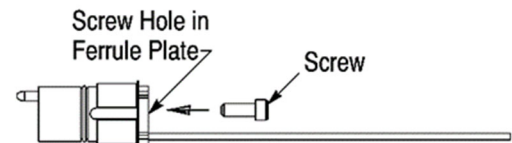

Figure 11
2. Align the end of the ferrule assembly with the appropriate channel cavity of the EB insert and insert the ferrule assembly into the channel cavity until the O-ring is against the channel cavity. See Figure 11, Detail A. To avoid damage to the fiber, DO NOT push on the fiber to install the ferrule assembly.
3. Slide the spring over the fiber until it is against the O-ring of the ferrule assembly. See Figure 11, Detail B.
4. Using the ferrule insertion tool, **push on the spring** until the ferrule assembly bottoms in the channel cavity (the spring will protrude slightly from the cavity). See Figure 11, Detail C.
5. Align the index pin hole of the ferrule plate with the index pin at the back of the EB insert, and slip the fiber into the closest slotted hole in the ferrule plate. See Figure 11, Detail C.
6. Hold the ferrule plate against the EB insert, making sure that the index pin enters the index hole. Thread the screw through the screw hole in the ferrule plate and into the hole in the EB insert. See Figure 11, Detail D. Using the 2-mm hex wrench, tighten the screw to a torque between 0.8 and 1 N·m. Check to make sure that the ferrule plate is flush with the EB insert.
- Revised and added to the Detail illustrations in Figure 11 to better correspond to the ferrule assembly installation text of Section 5.6. Steps 1 through 6.